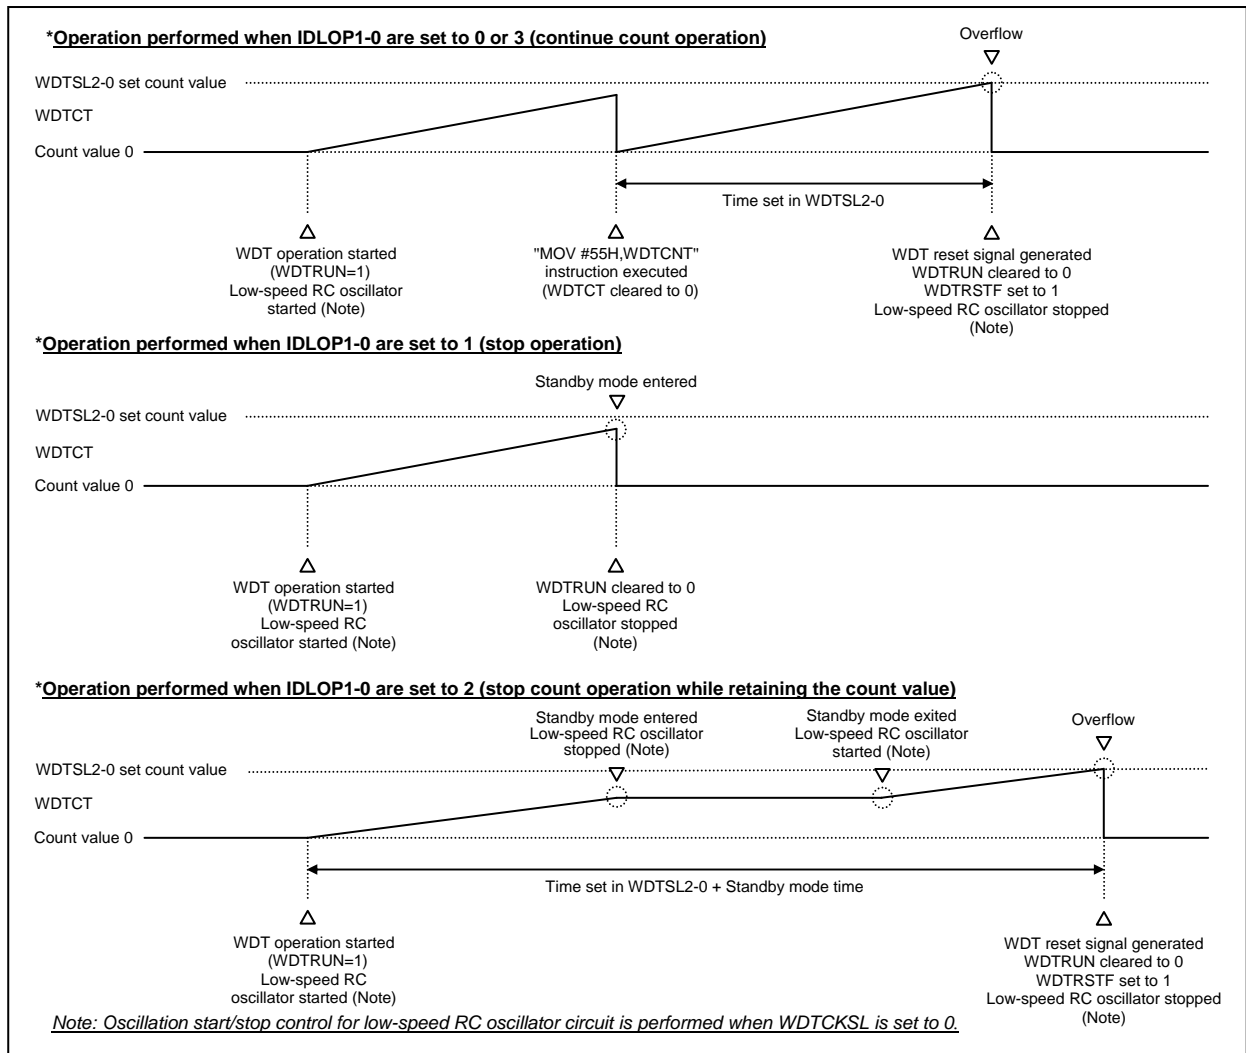

Figure 4.6.2 Sample Watchdog Timer Operation Waveforms
* See Figure 4.6.2 for details on WDT operation.
* See Figure 4.6.2 for details of the WDT operating modes.